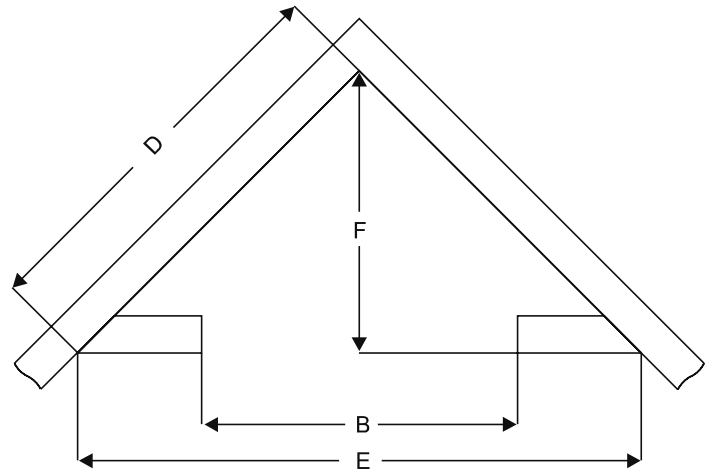

Figure 46 - Rough Opening for Installing in Corner
- Use dimensions shown in **Figure 46** for corner rough opening. Be sure to provide gas line and electrical power for fireplace assembly.